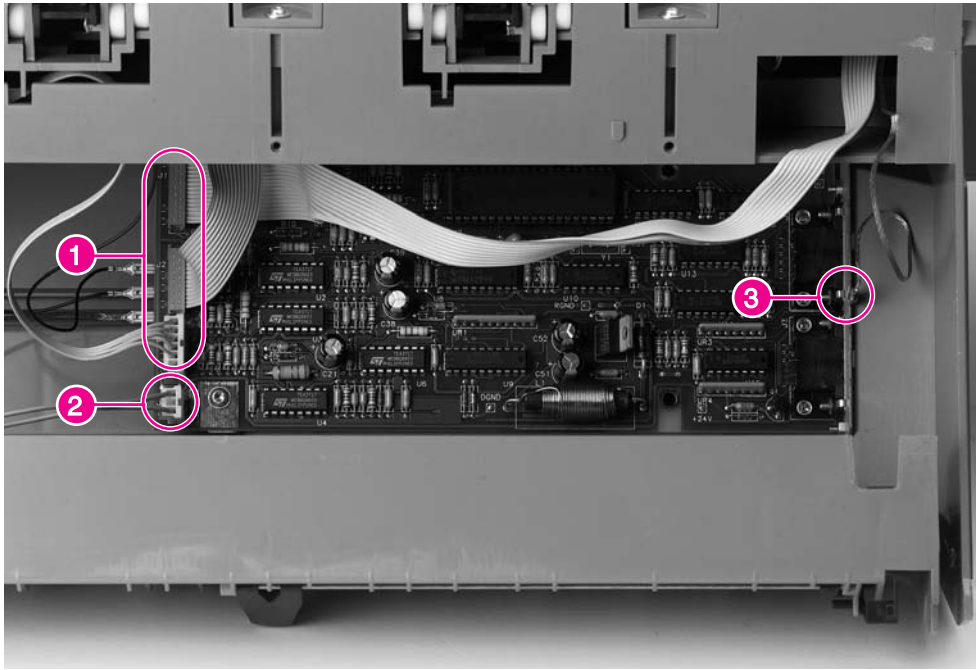

Figure 6-185 Stapler Controller PCA (2 of 3)
- 4 Unplug the cables that are connected to the PCA. Identify their color and size and the ground cables (see figure 6-185, callouts 1 and 2).
- 3 Unplug the ground and signal cables from the right side of the Stapler Controller board, being careful to keep them in the cable holder. See callout 1 and 3 on figure 6-185.
- 6 Disconnect the 2 cables in the hinge containing cables from the Stapler Controller PCA (see figure 6-185 on page 422, callout 2).